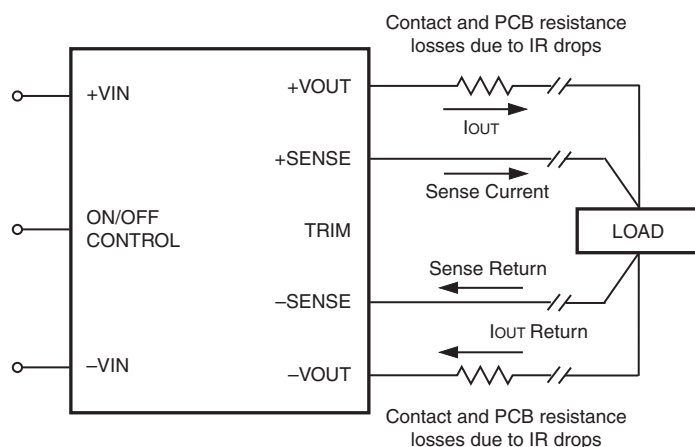

Figure 4. Remote Sense Circuit Configuration
**Positive** ("P" suffix) logic models are enabled when the On/Off pin is left open or is pulled high (see specifications) with respect to the –Input as per Figure 4. Positive-logic devices are disabled when the on/off pin is pulled low with respect to the –Input.